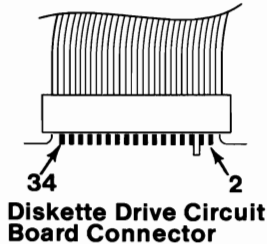

Figure 22. Voltage Check
- Power on the system and check the voltage at pin 16 of the failing diskette drive circuit board (Figure 22).